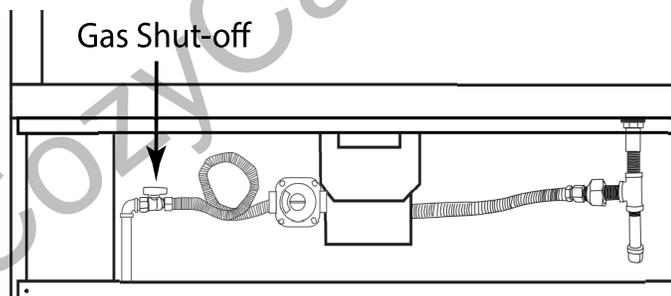

Figure 1 - Close up view of inlet gas connection with shutoff valve
GAS LINE: The gas line must have a predetermined location to enable it to be installed. *Figure 1* shows one example of an inlet gas line with a gas shut off at the fireplace. This allows a technician to shut the inlet gas supply OFF and remove the burner for servicing. **It is imperative that the flex line from the gas shutoff be long enough to lift out burner pan for service. Ensure you follow the local and state gas codes per your installation.**
3. The primary gas shutoff (supplied) will require a 1/2" male flared fitting to enable connection of the stainless steel flex gas line supplied with the fireplace (*See Figure 1, Page 5*).
NOTE: Preparation for the LED lighting and the inlet gas line must be planned before the fireplace is installed. See **Page 5, Figure 1** for inlet gasline and **Page 15** for LED lighting.